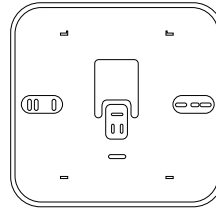
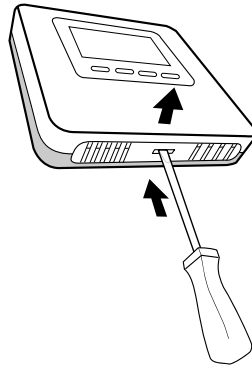

Fig. 10
Fig. 19
- If necessary, install the mounting plate to the electrical box included in the kit (Fig. 10).
Detach the base by pressing down the tab at the bottom (Fig. 19). Insert the 2 batteries in the compartment (make sure to observe the polarity indication). Now restore the room sensor by first inserting the top and then rotating it downwards while pressing it gently in. The wireless room sensor continuously monitors its battery charge. The battery life is around 2 years. When the batteries are nearing exhaustion, the display shows “” (Fig. 10).